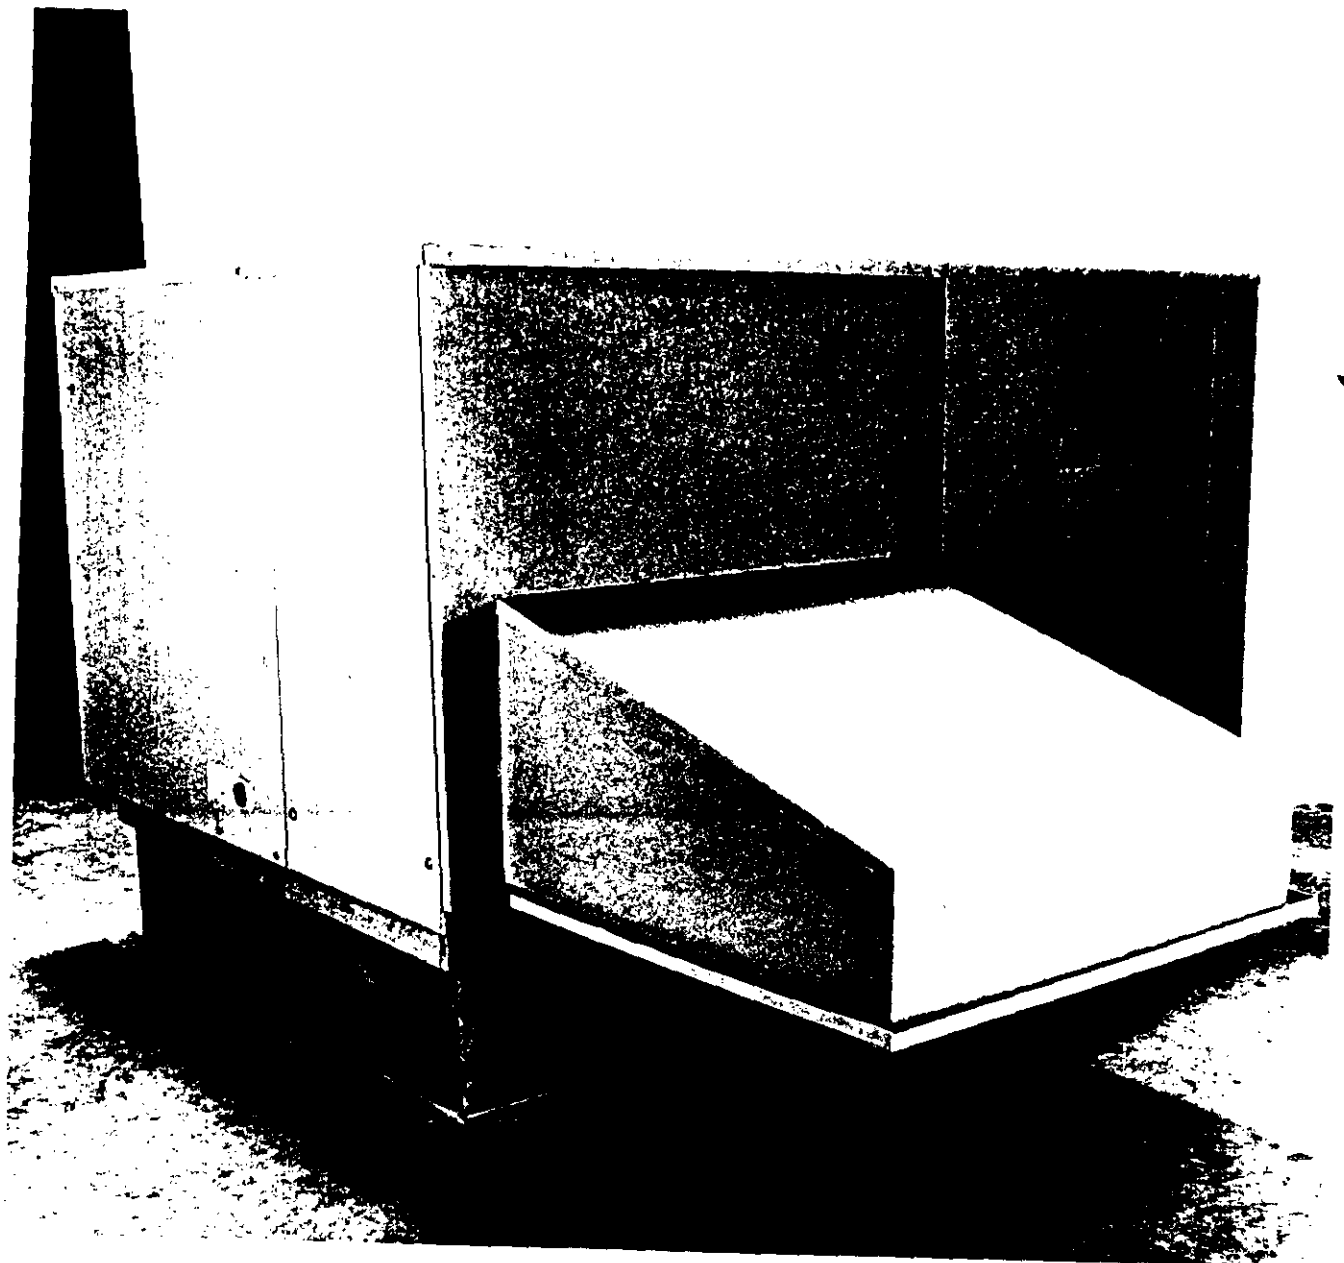

Figure 9.
15. Install the intake hood subassembly on unit side replacing the unit manual fresh air intake panel and secure with hex head sheet metal screws. (See Figure 9)